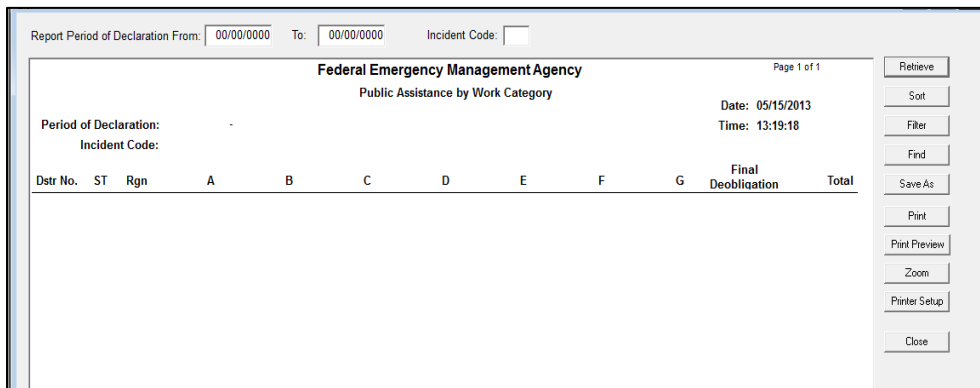

Figure 14-10: NEMIS-Wide Report Generator
- b. Double-click on a NEMIS Wide report. The Report Generator is displayed (Figure 14-10).